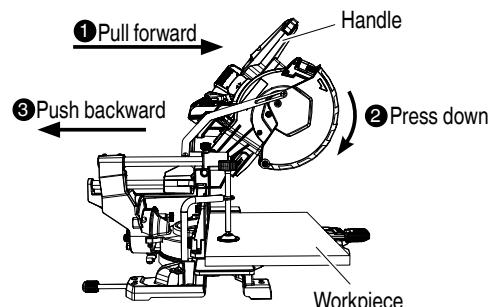

Fig. 32
Loosen the slide securing knob (see Fig. 1), grip the handle and slide the saw blade forward. Then press down on the handle and slide the saw blade backward to cut the workpiece as indicated in Fig. 32. This facilitates cutting of workpieces of up to 3-1/2" (89 mm) in height and 11-1/2" (292 mm) in width.
- For slide cutting, follow the procedures indicated above in Fig. 32.